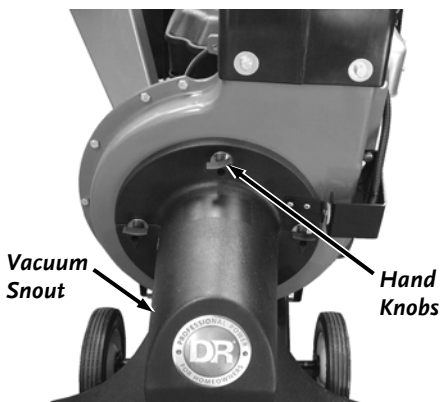

Figure 31
3. Unscrew the Hand Knobs and remove the Vacuum Snout from the machine (Figure 31).